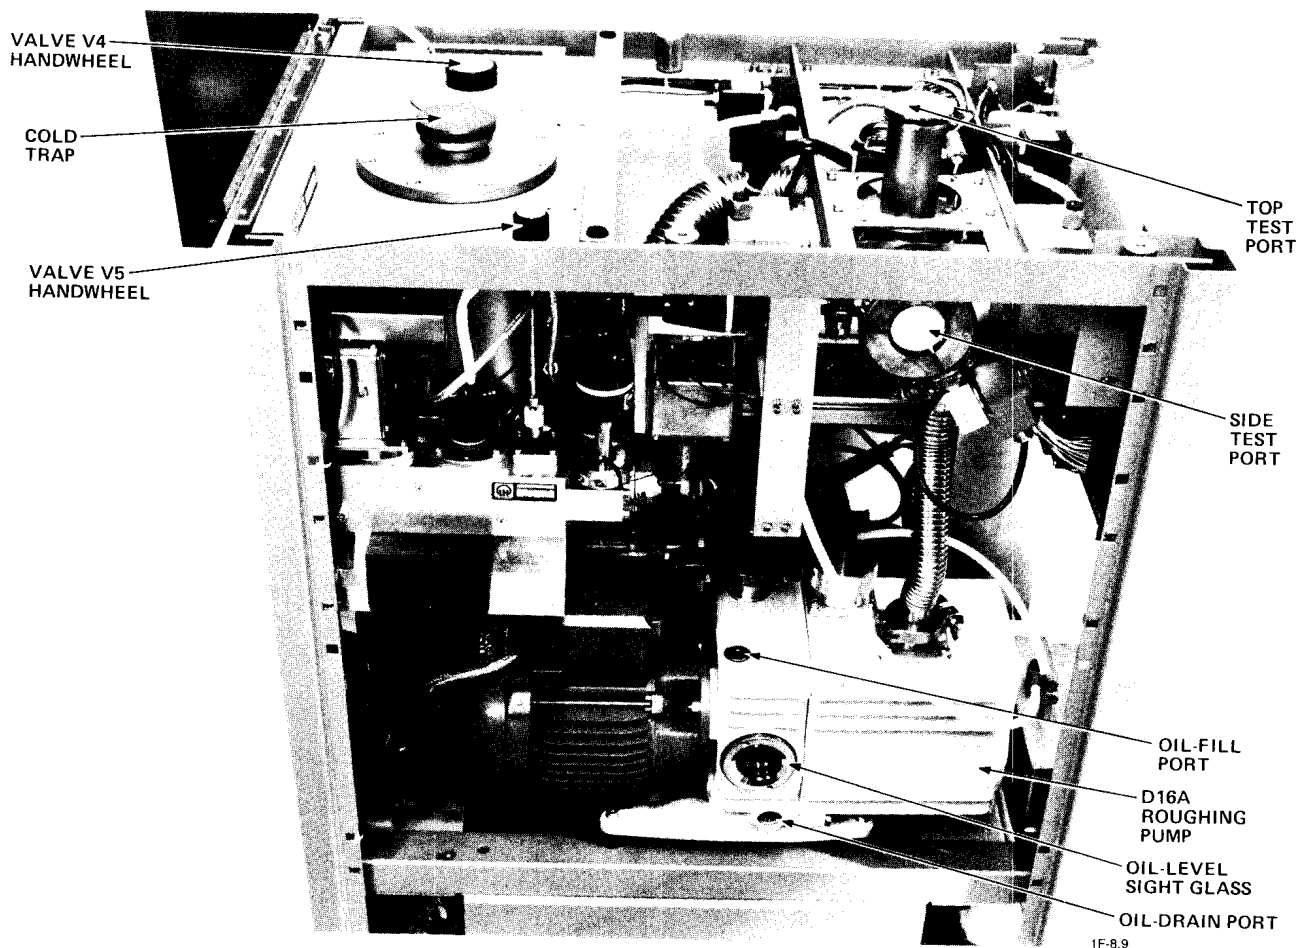
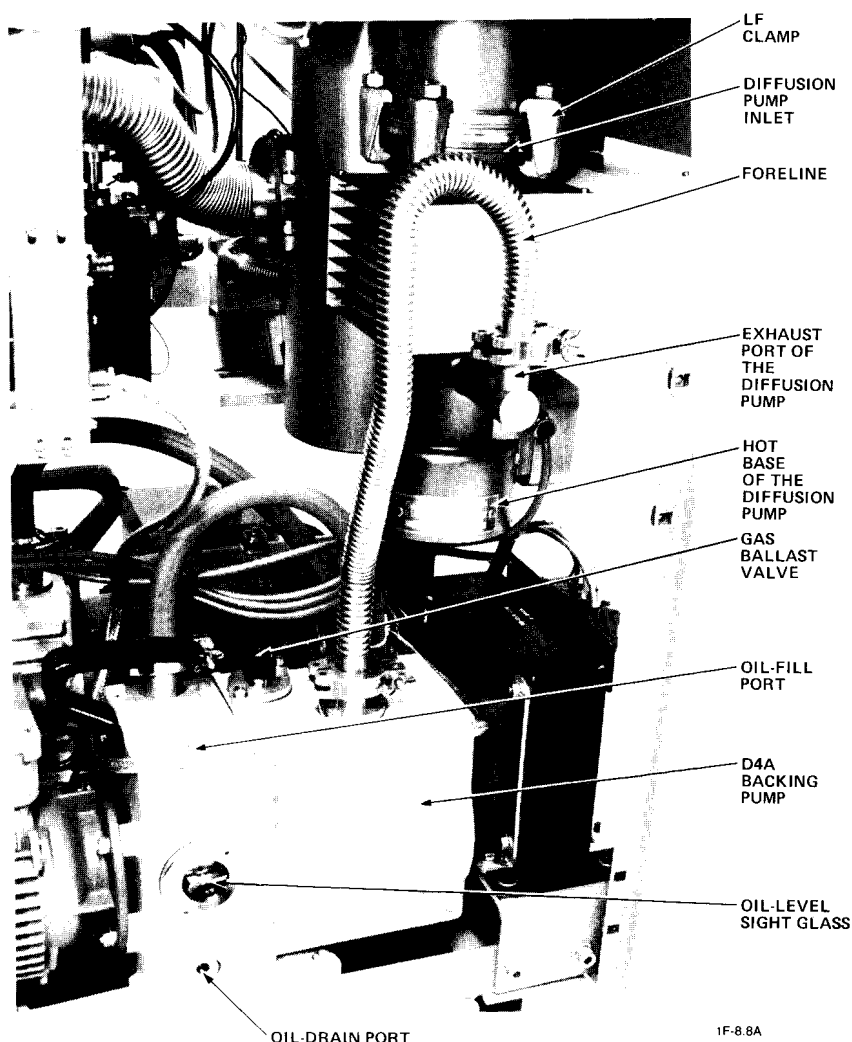

Figure 6-1 - Leak Detector Showing the Roughing Pump, and Valve V4 and V5 Handwheels
Figure 6-2 - Backing Pump and Diffusion Pump Installed in the Leak Detector
Remove the lower panels from both sides of the ULTRATEST in order to see the oil-level sight glass of the roughing pump (see Figure 6-1) and of the backing pump (see Figure 6-2).
2. Using an 8-mm allen wrench, remove the allen-head plugscrew from the oil-fill port in the top of the vane pump (see Figure 6-1 or 6-2).
3. Add HE-200 vacuum pump fluid (see Table 6-2) through the oil-fill port until the fluid level is in the middle to upper third of the sight glass while the ULTRATEST is turned off (see Figure 6-1 or 6-2).
Change the pump fluid in the roughing pump as follows (see Figure 6-1).
+ See the identification plate on the end of the roughing-pump oil casing to determine the model of your roughing pump (see Figure 6-1).
Change the pump fluid in the D4A backing pump as follows (see Figure 6-2).
Wait until the diffusion pump heater cools before proceeding to Step 4 (see Figure 6-2).
Remove the KF clamp and slowly disconnect the foreline from the exhaust port of the diffusion pump (see Figure 6-2).
Pour 10 cc of HE-300 pump fluid (see Table 6-2) into the exhaust port of the diffusion pump (see Figure 6-2).
- c. Using a 17mm wrench, loosen and remove the four LF clamps from the diffusion pump inlet (see Figure 6-2).
- f. Open the gas ballast valve on the backing pump (see Section 7-6-2-3 and Figure 6-2).
- g. Reinstall the diffusion pump into the leak detector (see Figure 6-2). Be sure to gradually tighten the LF clamps crosswise so that the O-ring is sealed evenly.